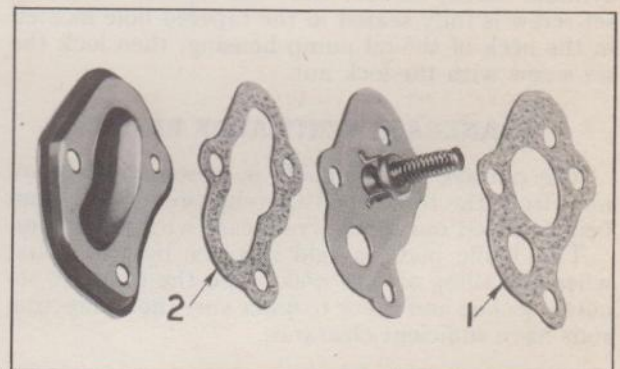

Fig. 40—Oil Distributor Parts
The Oil Distributor Valve Assembly is mounted in the side of the cylinder block. When assembling the oil distributor valve assembly, a cork gasket must be installed between the valve assembly and the block, and then another cork gasket between the valve assembly and the oil distributor cover. Fig. 40 shows the oil distributor assembly.
**NOTE**—Care must be used not to get these gaskets mixed. The gasket indicated by the number "1" in Fig. 40 must be assembled between the valve and the block, and gasket numbered "2" between the valve and cover.